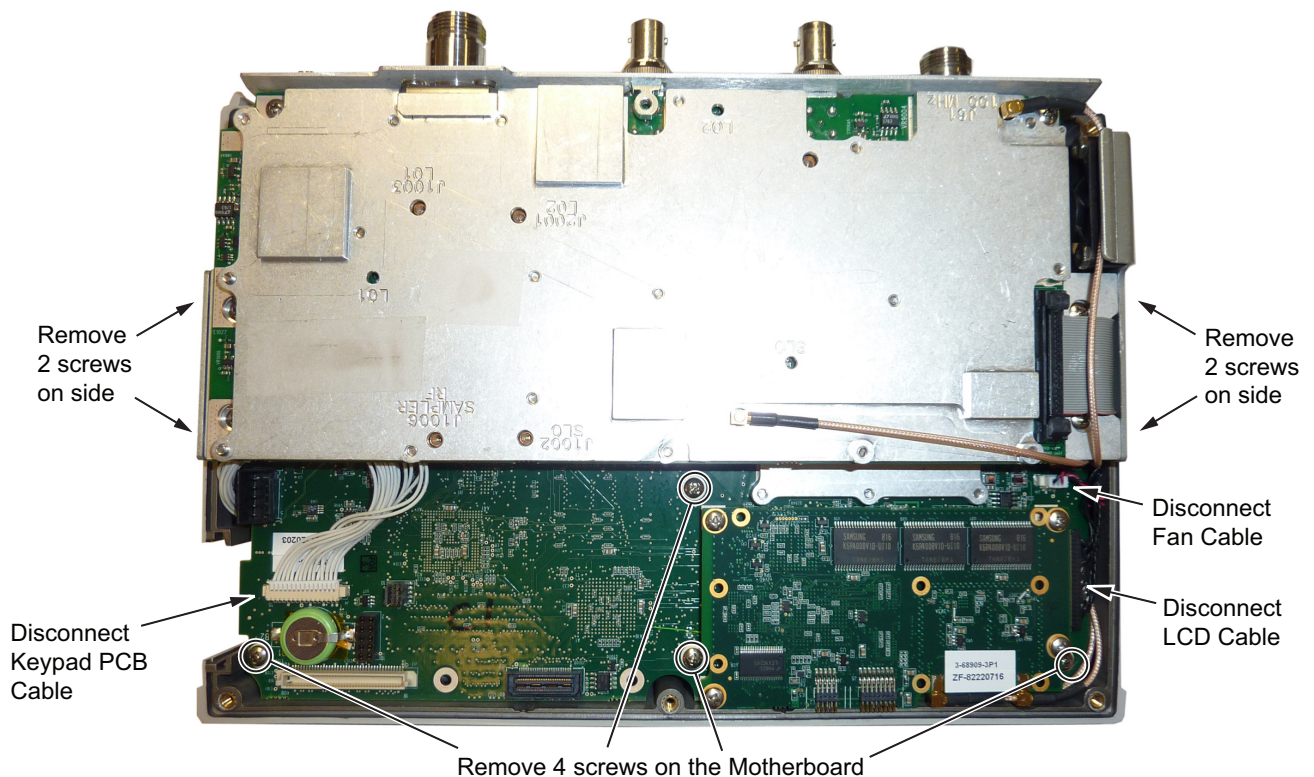

Figure 6-4. Removing the PCB Assembly out of the Case
3. Use a Phillips screwdriver to remove the 8 screws securing the assemblies to the case (Figure 6-4).
Note The MCX cable attached to SPA connector J61 (100 MHz) is shown passing above the SPA PCB ribbon cable. It must be routed under the ribbon cable, not as shown in Figure 6-4.